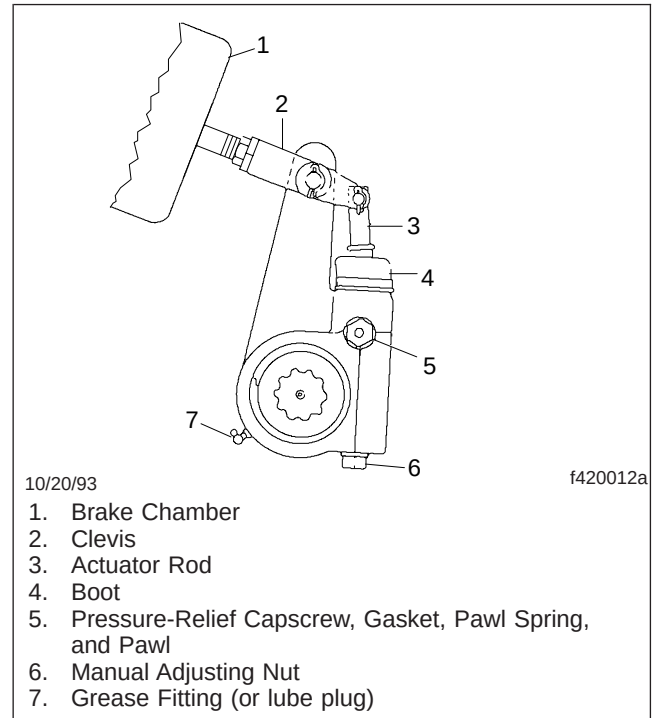
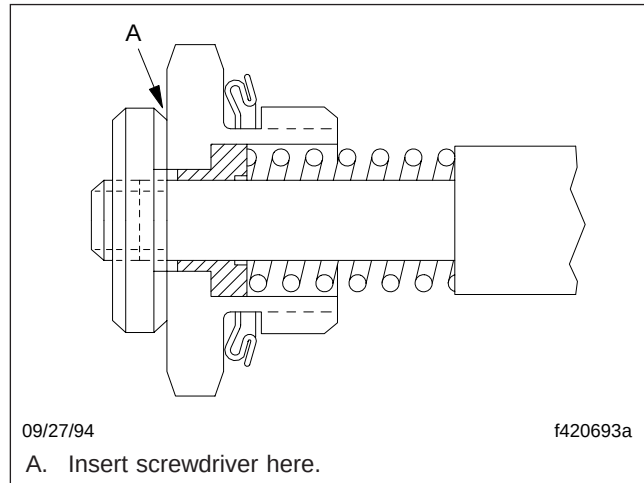

Fig. 4, Meritor Automatic Slack Adjuster
Fig. 6, Pull-Pawl Assembly (sectional view)
1. Check the boot for cuts, tears, etc. (**Fig. 4**), and replace it if necessary.
3.3 If the free-stroke is incorrect, remove the pressure-relief capscrew, gasket, pawl spring, and pawl (Fig. 4, Ref. 5) from the slack adjuster housing. If equipped with a pull-pawl assembly (Fig. 6), carefully insert a screwdriver and raise the relief cap about 1/8 inch (3.2 mm).
- 4.3 The brake chamber stroke must be less than the measurements shown in Table 1. If the brake chamber stroke is incorrect, remove the pressure-relief cap-screw, gasket, pawl spring, and pawl (Fig. 4, Ref. 5) from the slack adjuster housing. If equipped with a pull-pawl assembly (Fig. 6), carefully insert a screwdriver and raise the relief cap about 1/8 inch (3.2 mm).
1. Remove the pressure-relief capscrew, gasket, pawl spring, and pawl. See Fig. 4, Ref. 5.